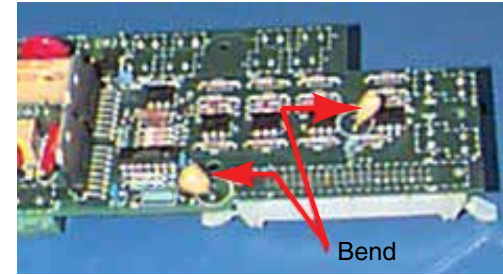

Figure G-7. Bend Capacitors on I/O PCB
- For Rack Mount units, use the universal bracket (Bag 7). Refer to Figure G-7.
- Re-install the I/O PCB. Ensure that the capacitors on the bottom of the I/O PCB are bent (refer to Figure G-7) to allow clearance with the LonWorks interface.